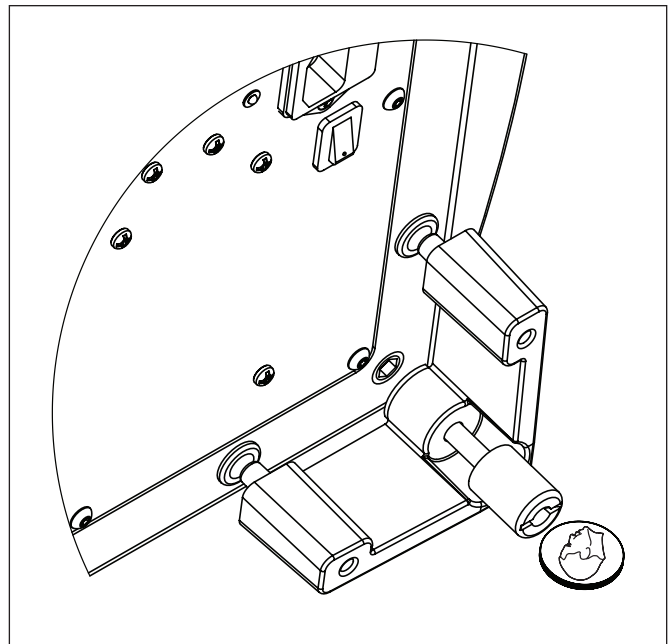

Figure 10. To change woofer orientation, use a coin to unscrew the attached feet, change location, and reinstall.
- 2 Carefully lay the Dynamo 1000 on its side. Using a coin, unscrew the attached feet. (see figure 10).
- 4 Using a coin, reinstall the feet (see figure 10).